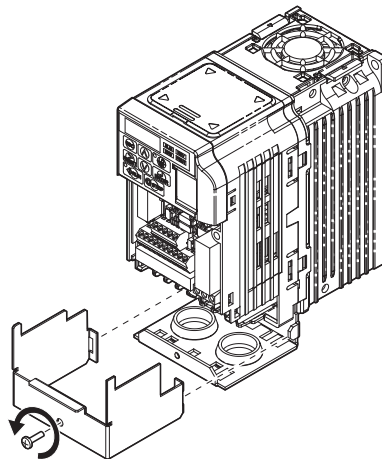
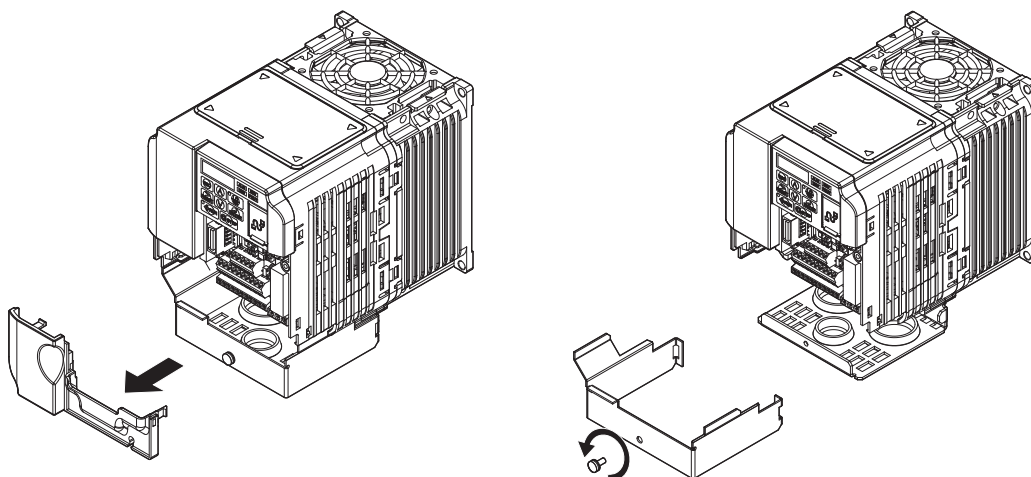

Figure 8 Remove the NEMA Type 1 Terminal Cover (CIMR-V□BA0001F to BA0003F, 2A0001F to 2A0006F)
Figure 9 Remove the Terminal Cover on an IP20/NEMA Type 1 Drive (Models CIMR-V□BA0006F to BA0018F; 2A0008F to 2A0069F; 4A0001F to 4A0038F)
6. For IP20/NEMA Type 1 enclosure models CIMR-V□□□A□□□□F, loosen the screw on the front of the NEMA Type 1 terminal cover and remove it from the drive. Refer to Figure 8 for details. Refer to Figure 9 for drive models CIMR-V□BA0006F to BA0018F, 2A0008F to 2A0069F, and 4A0001F to 4A0038F, which require removing the plastic terminal cover prior to removing the NEMA Type 1 terminal cover.